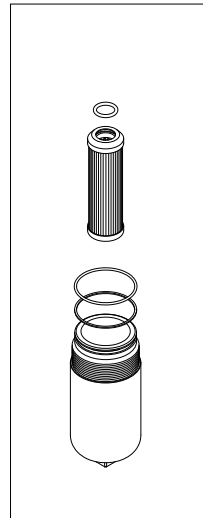

fig. 11
- (Fig. 11) Fit 1°: the anti-extrusion ring and 2°: the O-ring in the bowl groove, insert the O-ring in the filter element cap